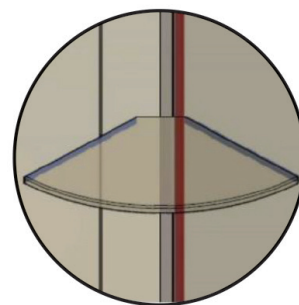

FIG 28.
- After 24-48 hours remove stabiliser blocks (FIG 28).